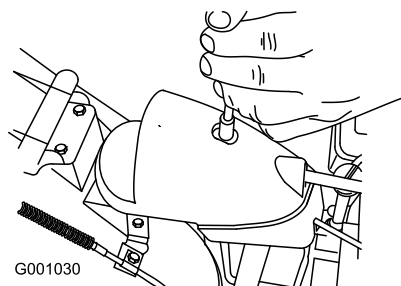

Figure 58
1. Remove the fastener on the gear cover (Figure 58), lift the front of the cover up, and slide it back and out of the way.